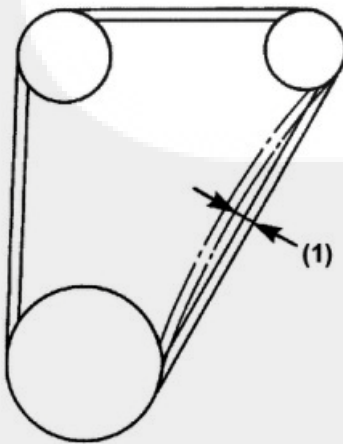
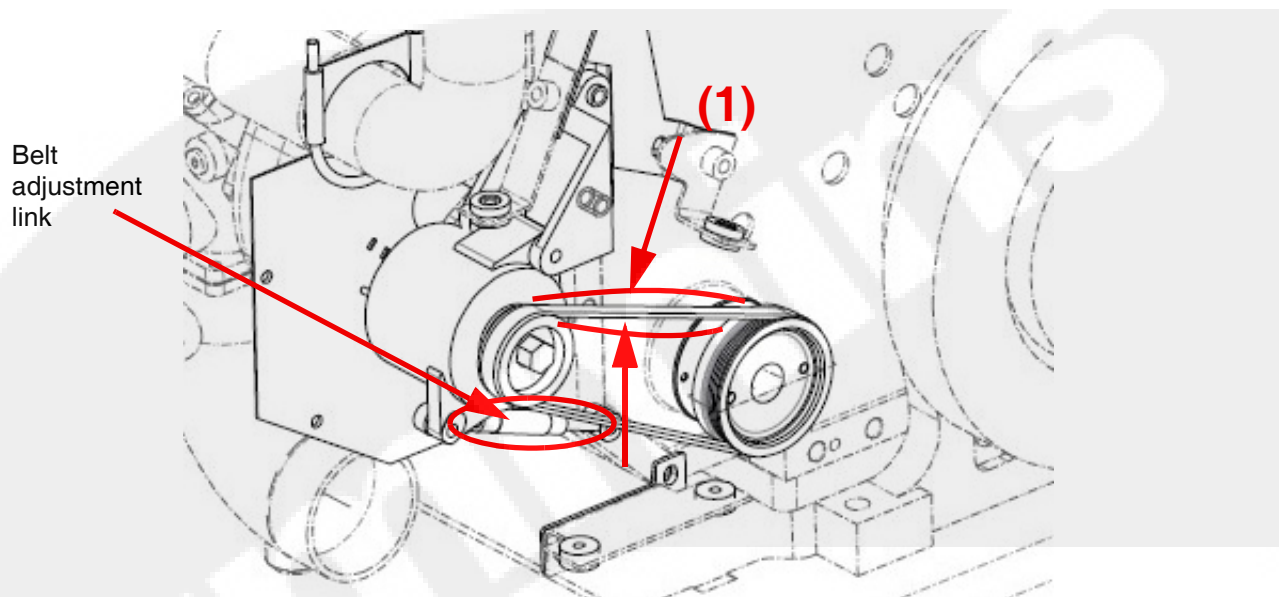

Figure 7-38 Checking belt tension
Figure 7-40 GenSet alternator belt tension
As shown in Figure 7-38, belt tension is measured by pushing the belt halfway between the fan drive pulley and alternator pulley at the specified force to measure the deflection (1).
3. Apply moderate thumb pressure to the alternator belt between the pulleys. As shown by “1” in Figure 7-40, proper belt tension is a deflection (when the belt is pulled in the middle of the span) of 0.28 to 0.35 in. (7 to 9 mm) under a load of 22 lbs. (10 kg). See also Figure 7-38.